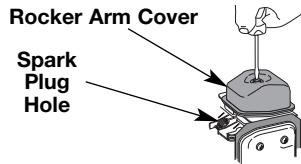

Fig. 35
7. Clean dirt from around the rocker arm cover. Remove the screw holding the rocker arm cover with a large flat blade screwdriver or Torx T-25 bit (Fig. 35). Remove the rocker arm cover and gasket.